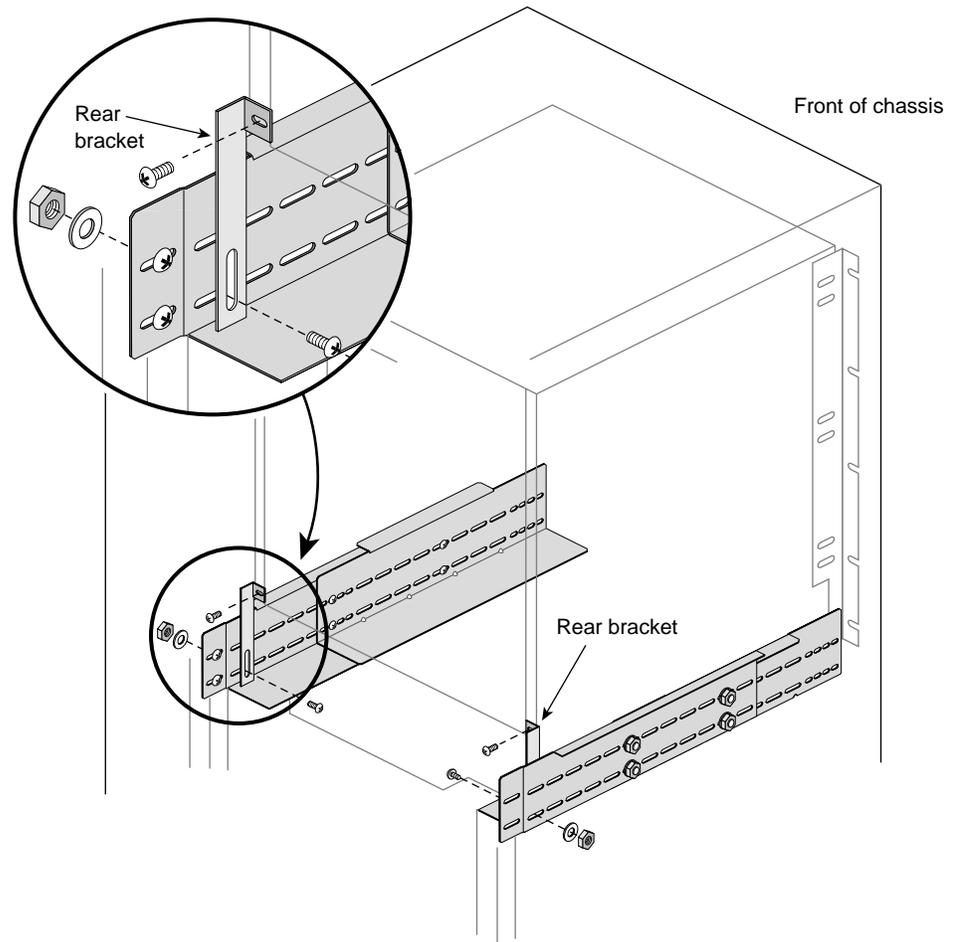

Figure 1-10 Attaching the Rear Brackets
11. To ensure system stabilization, use the mounting screws to attach one end of the rear brackets to the lower, rear left side and right side of the system chassis (see Figure 1-10). Then attach the other end of the rear brackets to the left and right rear chassis shelf assemblies.